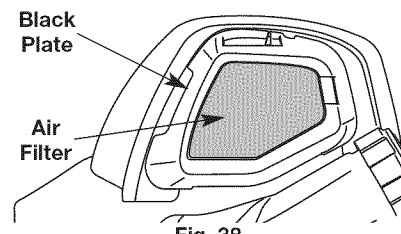

Fig. 38
- Remove the air filter (Fig. 38).
- Replace the air filter into the base plate (Fig. 38).